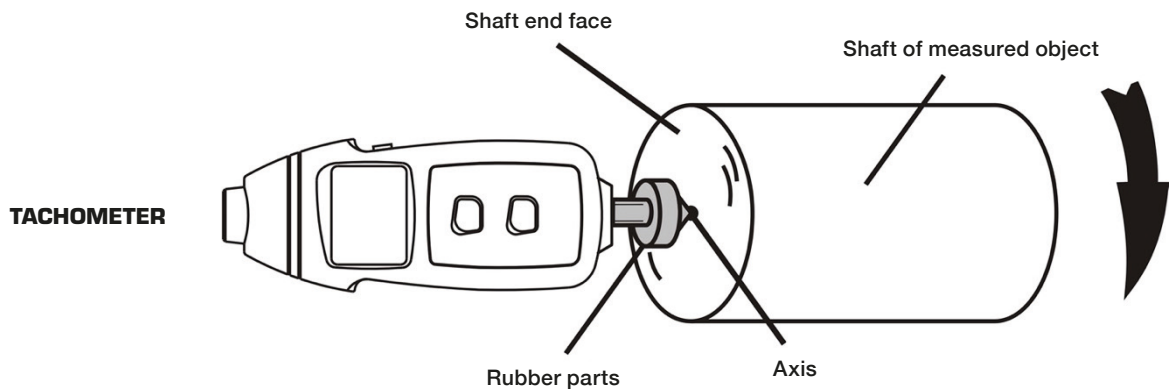

Fig. 8.
- b. Press the rubber head contacting the rotating shaft with the measured object and ensure that it rotates synchronously and coaxially with the measured object (see Fig. 8).